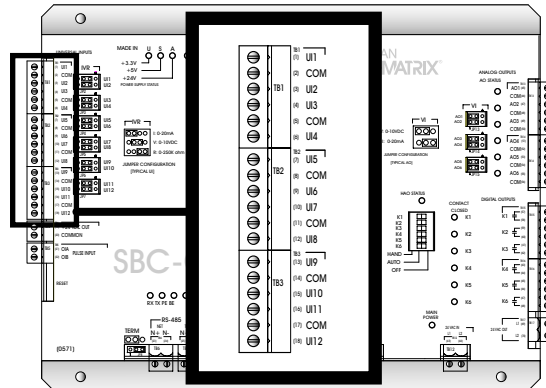

Figure 2-9: Location of the Universal Inputs on the SBC-GPC1
The SBC-GPC1 provides a total of twenty four universal inputs (UIs). It has twelve (12) on-board universal input points shown in Figure 2-9. These correspond to the Universal Input 1 through Universal Input 12 channels. Universal Input 13 through Universal Input 24 are exclusively for use with STATbus devices and can be configured to make use of remote inputs on SSB-F11, SSB-UI1, and SSB-IOX1 modules.